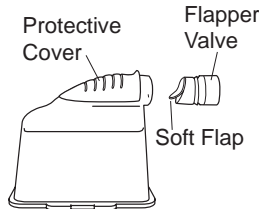

FIGURE 3-6 FLAPPER VALVE AND PROTECTIVE COVER
3. Remove the flapper valve from the air inlet port; unclip the protective cover from the top of the water chamber, as shown in Figure 3-6. Wash these parts by hand only in a solution of warm water and mild liquid dishwashing soap. Rinse the parts with clean water and allow them to air dry.
5. Reassemble. Insert the flapper valve into the air inlet port, and clip the protective cover on top of the water chamber, as shown in Figure 3-6.